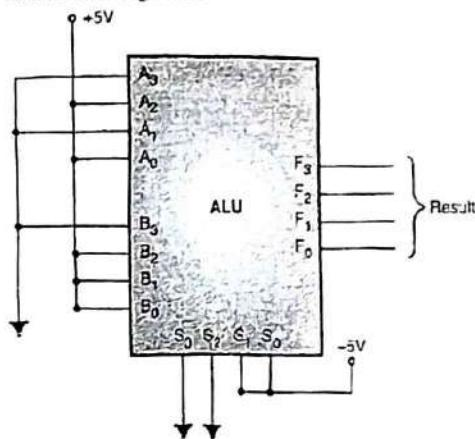

Fig. 1.1.5 : ALU connections to implement $5 + 7$
- A binary code for addition is to be given on select lines. Suppose $(0\ 0\ 1\ 1)_2$ refers to add operation for this ALU. So the connections are to be made by the programmer as shown in Fig. 1.1.5.